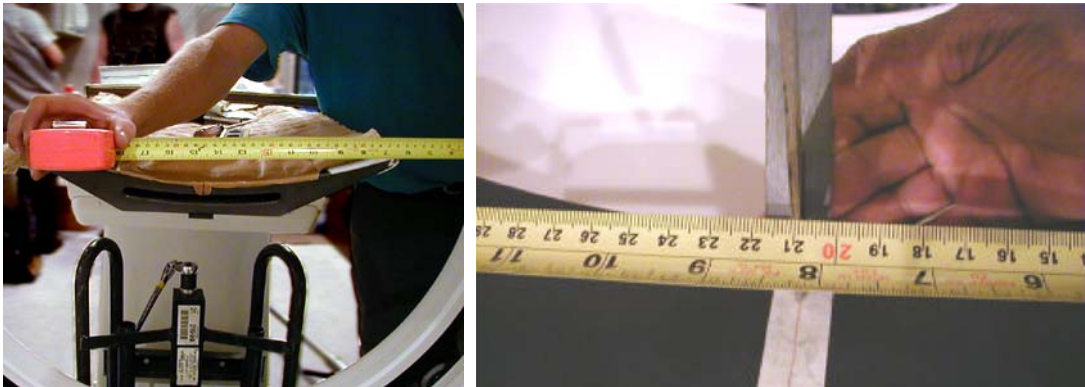

Figure 1-36 Measure Distance
- 1.) Carefully measure from cradle center line to collimator faceplate. It may be helpful to use a square or straight edge to help determine the measured distance (see Figure 1-36).
- 4.) Carefully measure from the cradle center mark to the collimator faceplate. It may be helpful to use a square or straight edge to determine the measured distance (see Figure 1-36).